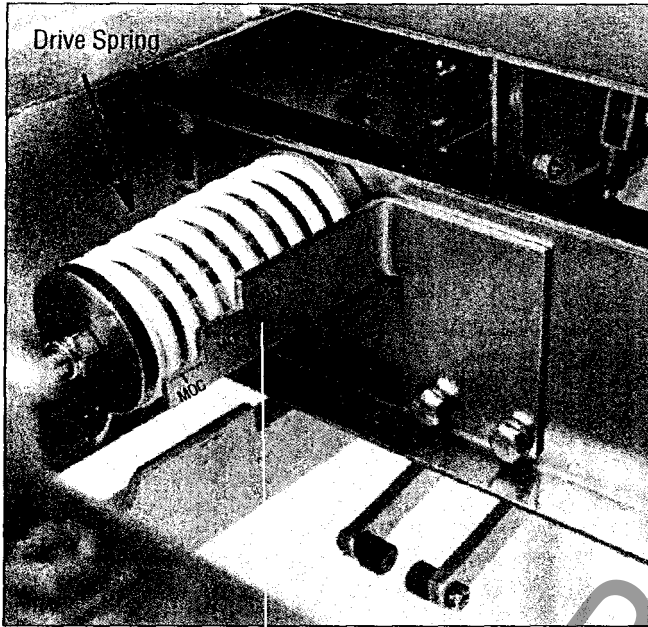

Figure 4-1 MOC Drive Spring
It is only for the cases of 2 or 3 MOC switches that the drive spring adjustment is required. The adjustment is done with the breaker out of the cell, open and all springs discharged. Refer to Figures 4-1 through 4-6 for reference assistance.
Step 2: Locate the MOC drive spring (Figure 4-1). It is located in the left lower portion of the breaker as viewed from the top rear of the breaker with the phase barriers removed.